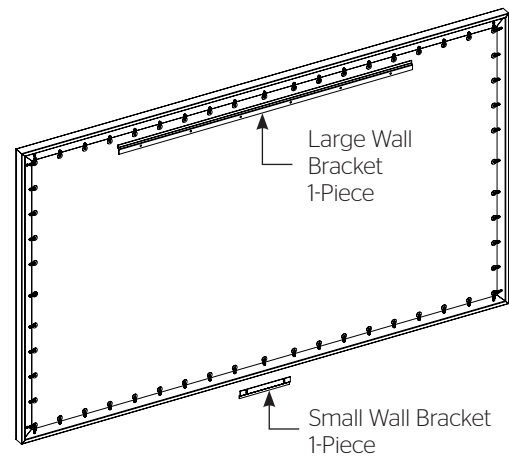

Figure 5
1. Secure the wall bracket to wall studs at the desired height. Make sure the bracket is level. The top of the frame will be 3 mm above the top of the wall bracket when mounted. You will need at least 16 mm clearance above the bracket to hang the screen. Figures 5, 6, and 7 show the proper orientation for the supplied wall brackets.